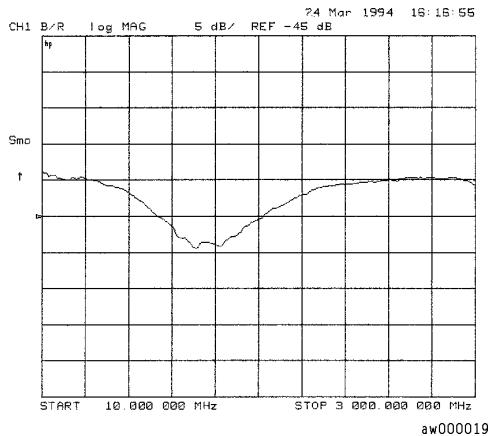

Figure 8-22. Example Mixer RF Feedthrough Measurement
- 7 The measurement results, in **Figure 8-22**, show the mixer's RF feedthrough.